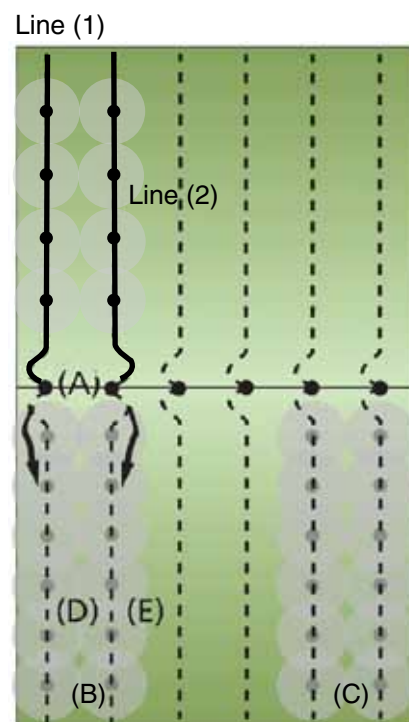

Figure 3. Shifting rotation within a typical paddock (8 pods at 25 metre spacings) Line 1 moves to D Line 2 moves to E
Go to the submain (valve) end of the sprinkler line (1) (point (A) in Figure 3). Uncouple the line (1) from the submain, then connect the tow rope onto the K-Line™ then tow towards point (B). The K-Line™ will end up in position (D). Unhook, install a plug end then re-couple the K-Line back at the submain. Repeat this shifting process for line (2) uncouple at point (A) then tow the line toward point (B), Install the plug then re-couple at point (A).